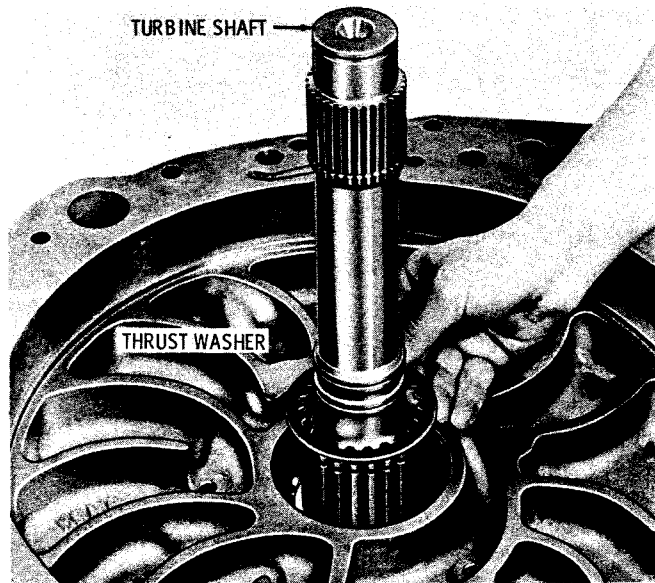

Fig. 7-46. Installing splined washer onto turbine output shaft (CBT, CLBT, prior to S/N 35993)
(9) Install the splined washer onto the front of the turbine output shaft (fig. 7-46).